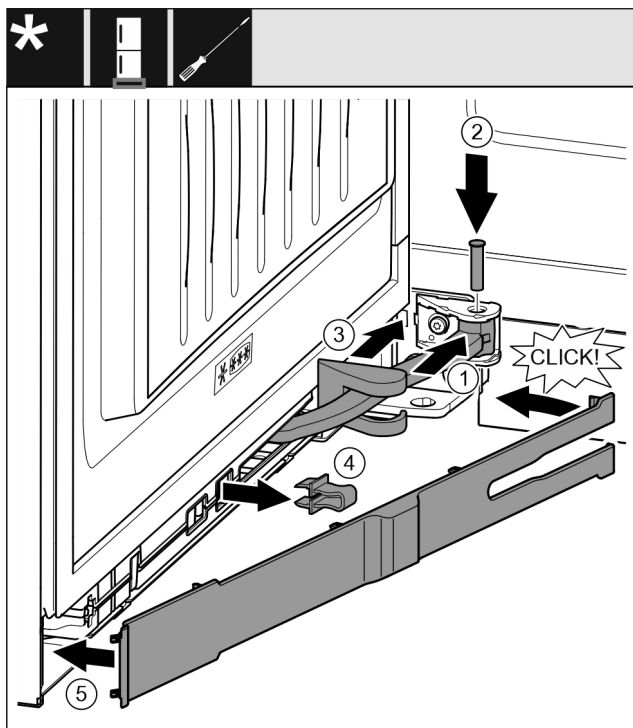

Fig. 69
- Turn the joint Fig. 69 (1) in the attachment.
- Use a screwdriver to insert the bolt Fig. 69 (2) into the attachment and the joint. Ensure that the latching cam is in the groove properly.
- Push the swap bearing block cover Fig. 69 (3) along the joint and use the attachment to fit it.
- ▶ Remove the safeguard Fig. 69 (4).
- ▶ Place the trim Fig. 69 (5) on the handle side and swing in.